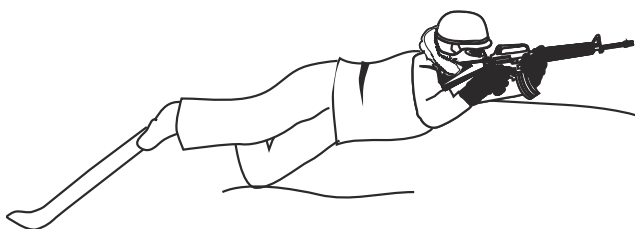

Figure 10-6. Side Prone.
- If falling to the left, fire the weapon right-handed. If falling to the right, fire the weapon left-handed. See figure 10-6.